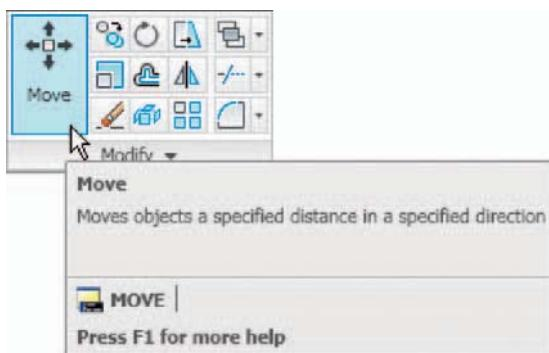

Fig. 5.24 The **Move** tool from the **Home/Modify** toolbar
2. Call **Move** – either *click* the **Move** tool icon in the **Home/Modify** panel (Fig. 5.24), *pick* **Move** from the **Modify** toolbar, *pick* **Move** from the **Modify** drop-down menu, or *enter m* or **move** at the command line, which shows: